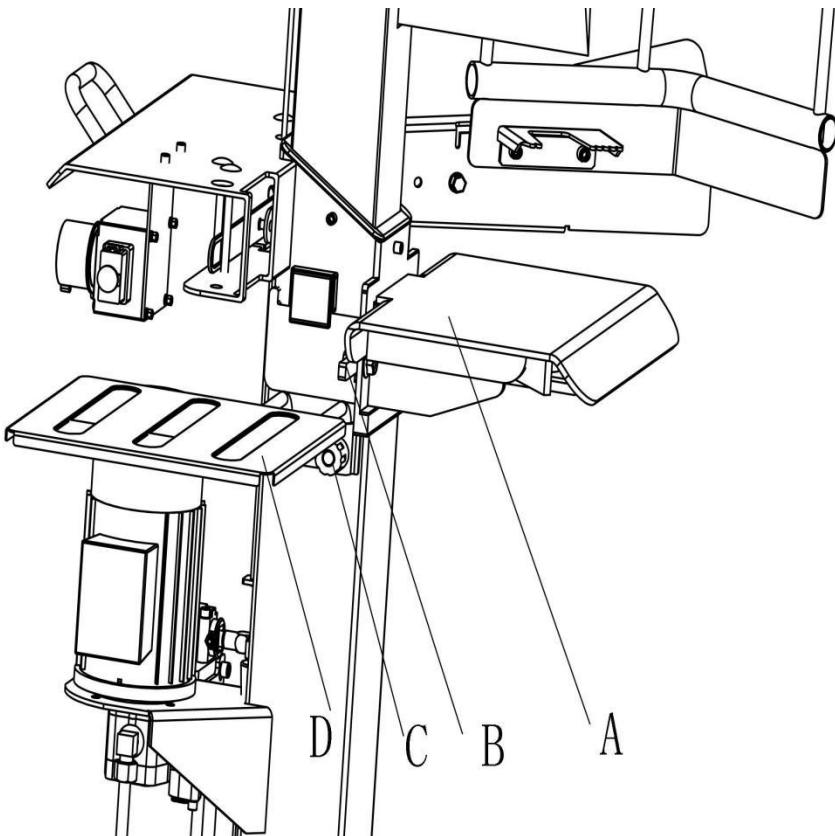

Fig.4
**Mounting the left/right storage Fig .4**
**Mounting the table, Fig. 4**